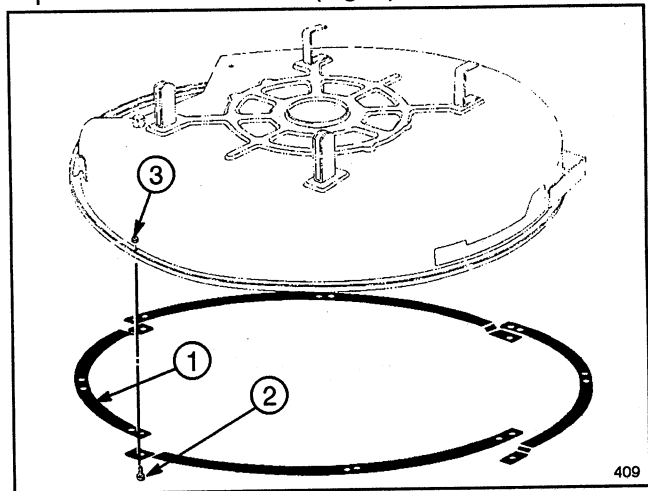

Figure 7
1. Align holes in first two deck ring pieces with rim hole in center of discharge area (Fig. 7). Secure ring pieces to deck with capscrew and lock nut.
2. Continue securing deck ring pieces to deck in a counterclockwise direction using remaining (7) capscrews and lock nuts (Fig. 7).